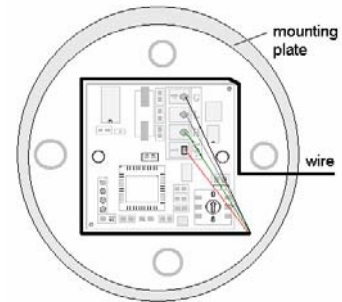

Figure 7: Wiring Around Sensor
4. Make sure to route cable around the sensor board as shown in **Figure 7** and **Drawing A-197884**.